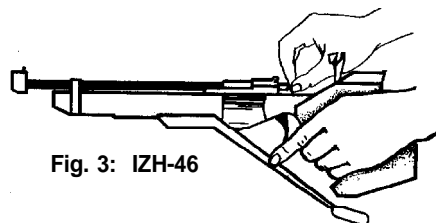

Fig. 3: IZH-46
**B)** Make sure you have completed the pistol cocking sequence before you insert the pellets with the skirt to the rear (See Fig 3) , Warning - If the pellet is not fully seated, it will be deformed when the bolt is closed / locked in place.